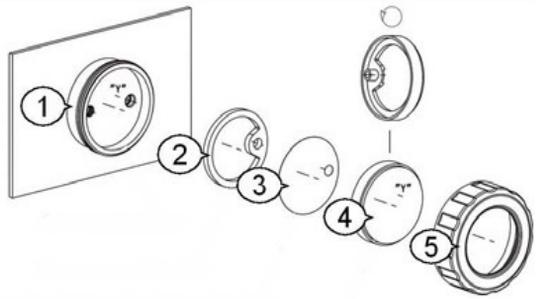

Figure 39 -
8. Install the assembled cartridge into the filter base (1), ensuring the correct positioning of the elements by aligning the "Y" axes as shown in Figure 39;